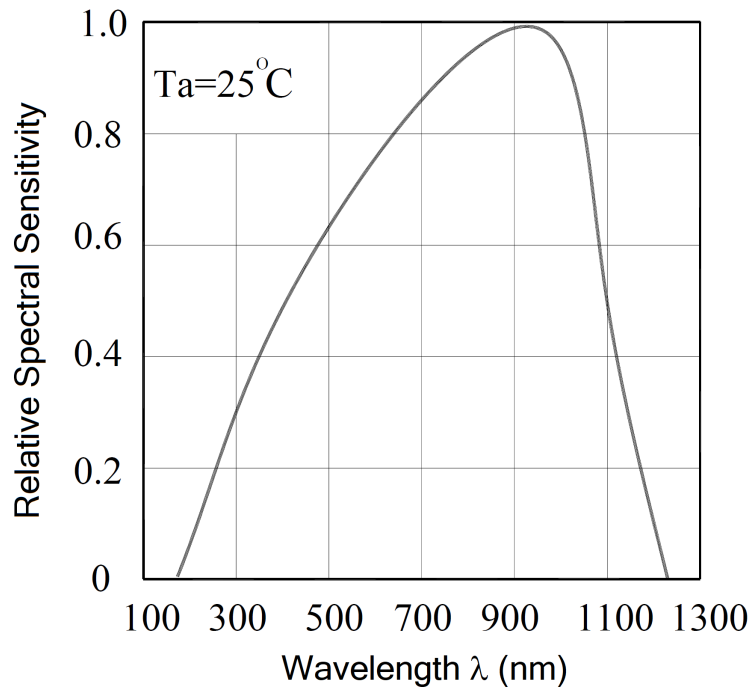

Figure 4: PD204-6C Relative Spectral Response (relative to the sensitivity at 940 nm)
Figure 4 shows the RSR (aka RSS) from the PD204-6C data sheet. You can see the maximum sensitivity is around 940 nm.
1. The photometer you will build this week will mostly be measuring white light (since this will be the kind of light most easily accessible). We can approximate white light as being $\lambda = 555 \text{ nm}$. Use Figure 4 and $S_{940} = 0.14 \text{ A/W}$ to estimate the sensitivity S_λ at this wavelength.